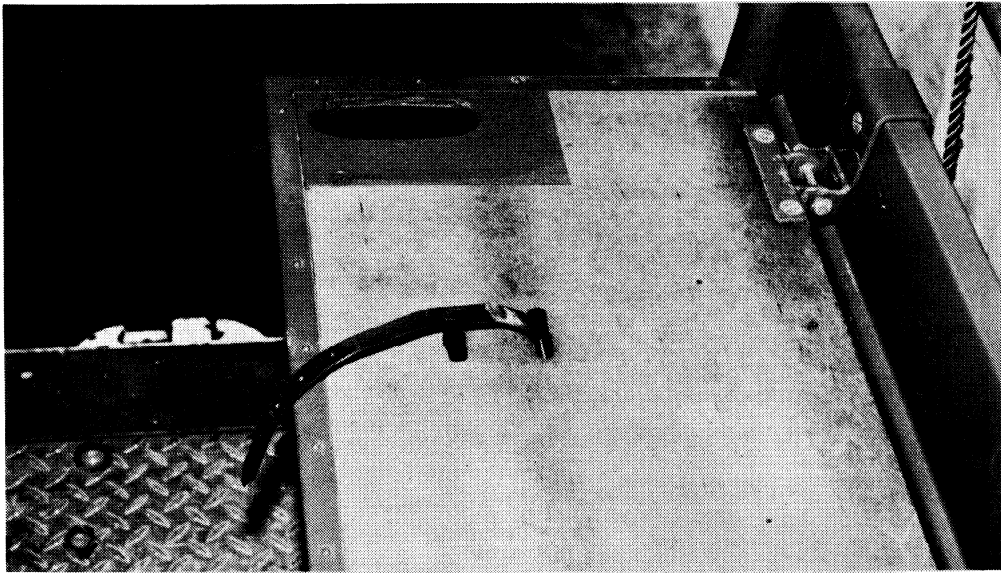

FIG 2 - COMPLETED MODIFICATION
- b. Paint in accordance with WKSP B 700. Ensure the end grain of the plywood is fully sealed. Finish using ENAMEL, LUSTRLESS, OLIVE DRAB as shown in Fig 2.